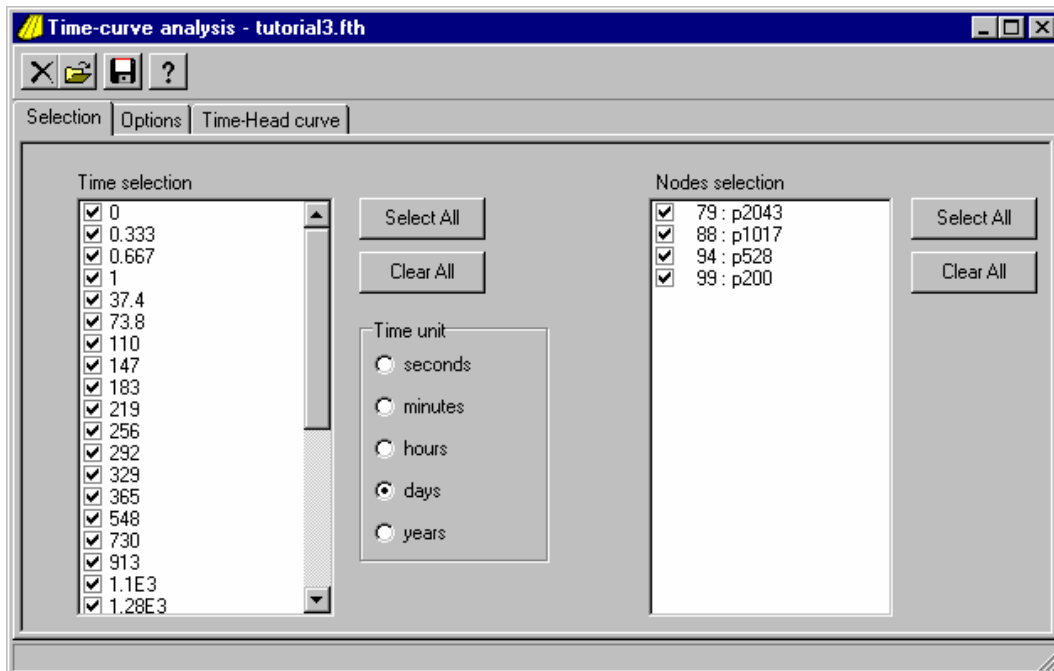

Figure 58: Time curves window, Selection tab
9. Click on the main menu on Tools → Time curves.... The time curve analysis window appears. Click in this window on the -button and in the file menu, select tutorial3.fth. The time curves window will show the Selection tab which looks like this (Figure 58):